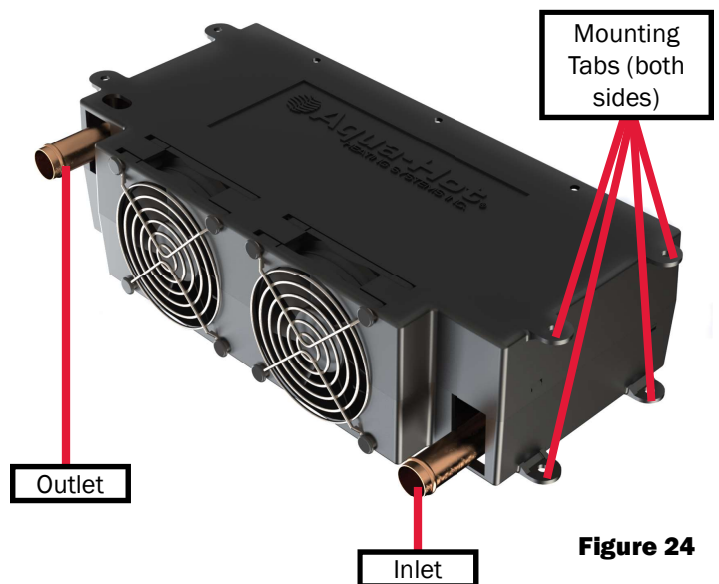

Figure 24
- The anti-freeze and water heating solution must flow in through the bottom of the heat exchanger, and out the top (reference Figure 24).
2. Mount each heat exchanger permanently into place. There are 4 tabs on both sides - see Figure 24.